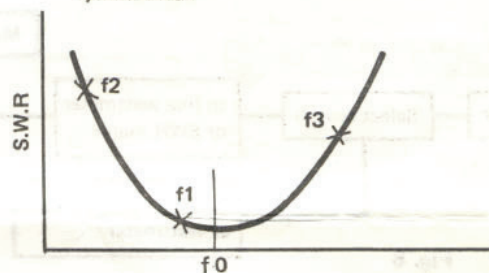

Fig. 6
- 5) Plot the values measured at these 3 frequencies on a graph, as shown in Fig. 6, to obtain the " $f_0$ ".
- 7) Set the transmit frequency to the lowest and highest frequencies of the band and repeat the measurement following the procedures in items 2) through 6).
- 8) Plot the values measured at these 3 frequencies on a graph, as shown in Fig. 6, to obtain "fo"